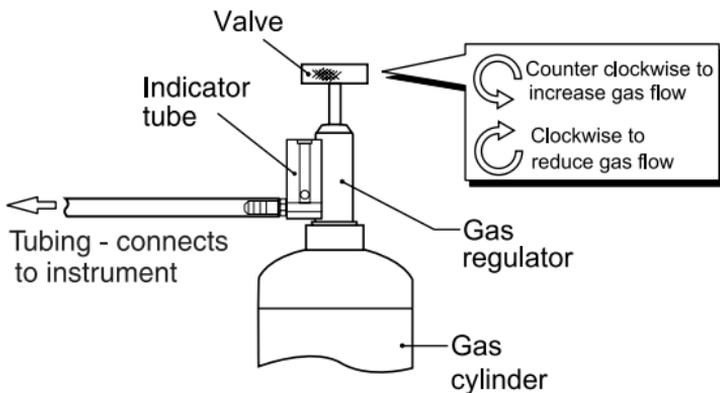

Fig. B-5 Connecting Gas
3. Remove the cap from calibration gas cylinder. Make sure that the regulator valve is in the fully closed position (Off) then connect the gas regulator to the gas cylinder (push down gently and tighten clockwise, hand tight). See Figure B-5 for details.